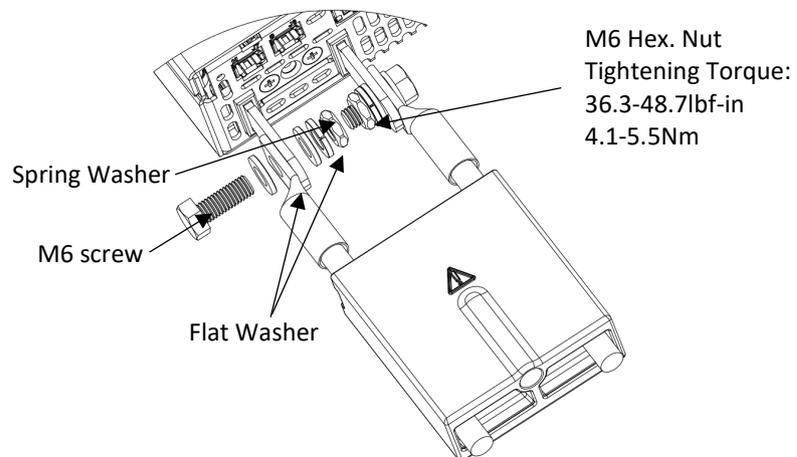

Figure 4-40: 20V-100V Wires Assembly
3. Fix the wires to the Bus bars as shown in Figure 4-40.